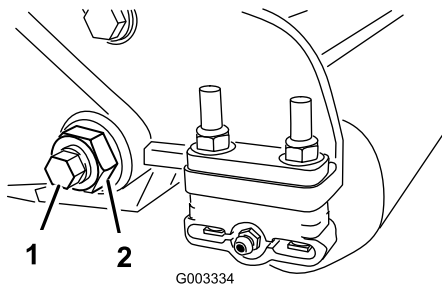
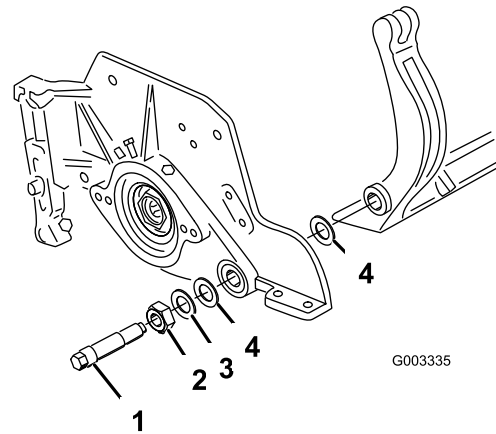

Figure 26
Figure 27
- On each side of the machine, loosen the lock nut securing the bedbar bolt (Figure 26).
- Remove each bedbar bolt allowing bedbar to be pulled downward and removed from machine bolt (Figure 26). Account for 2 nylon and 1 stamped steel washers on each end of bedbar (Figure 27).
- Secure bedbar to each side plate with bedbar bolts (nuts on bolts) and 6 washers. A nylon washer is to be positioned on each side of side plate boss. Place a steel washer outside each of the nylon washers (Figure 27). Torque bedbar bolts to 27-33 ft.-lb. Tighten locknuts until the outside steel washer stops rotating and end play is removed but do not overtighten or deflect side plates. Washers on inside may have a gap.